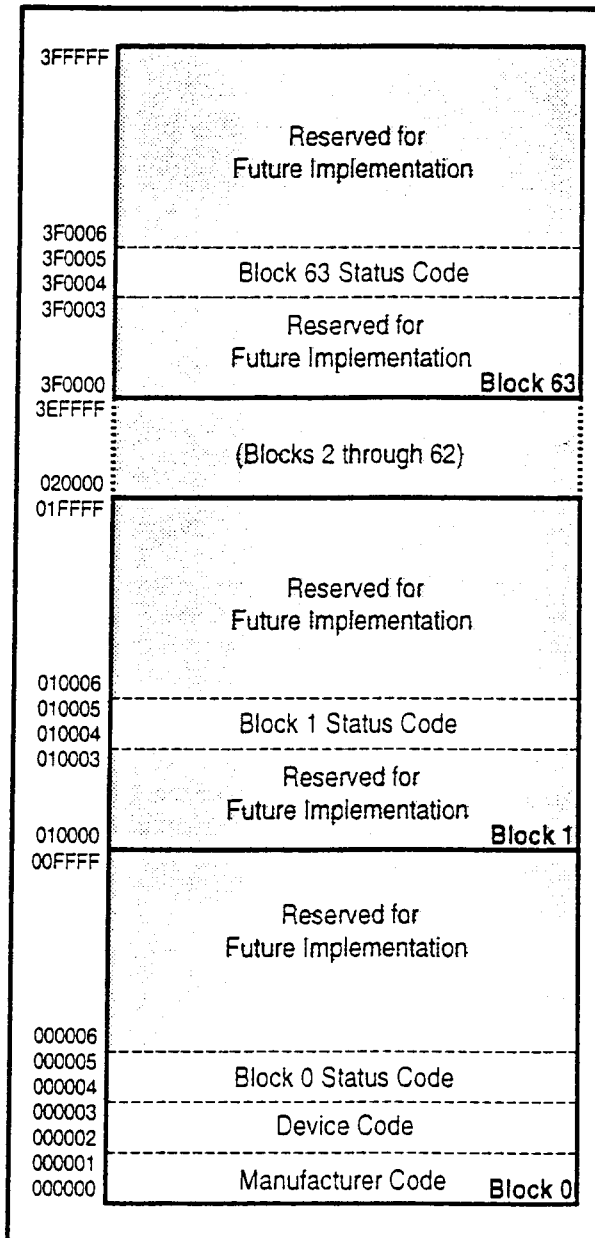

Figure 5. Device Identifier Code Memory Map
IA=Identifier Code Address: see Figure 5.
The identifier code operation is initiated by writing the Read Identifier Codes command. Following the command write, read cycles from addresses shown in Figure 5 retrieve the manufacturer, device, block lock configuration and block erase status (see Table 5 for identifier code values). To terminate the operation, write another valid command. Like the Read Array command, the Read Identifier Codes command functions independently of the V_{PP} voltage and $RP\#$ must be V_{IH} . Following the Read Identifier Codes command, the following information can be read:
1. X selects the specific block status code to be read. See Figure 5 for the device identifier code memory map.